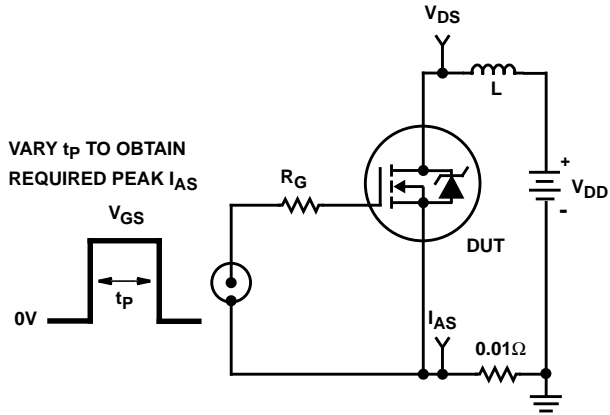

FIGURE 15. UNCLAMPED ENERGY TEST CIRCUIT
4. $V_{DD} = 10\text{V}$, starting $T_J = 25^{\circ}\text{C}$, $L = 170\mu\text{H}$, $R_G = 50\Omega$, Peak $I_{AS} = 40\text{A}$. See Figures 15, 16.